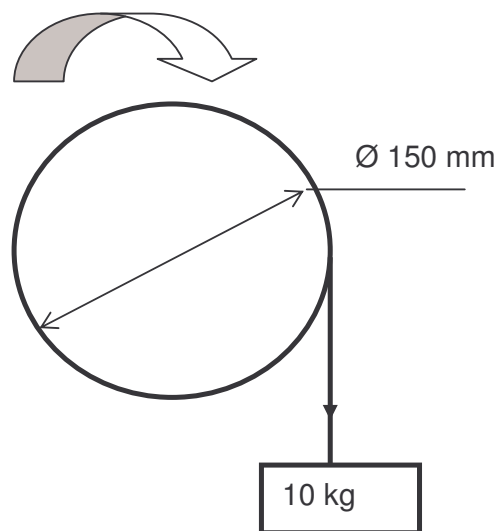

FIGURE 2.4
2.4 FIGURE 2.4 shows a line diagram of a basic lifting machine.